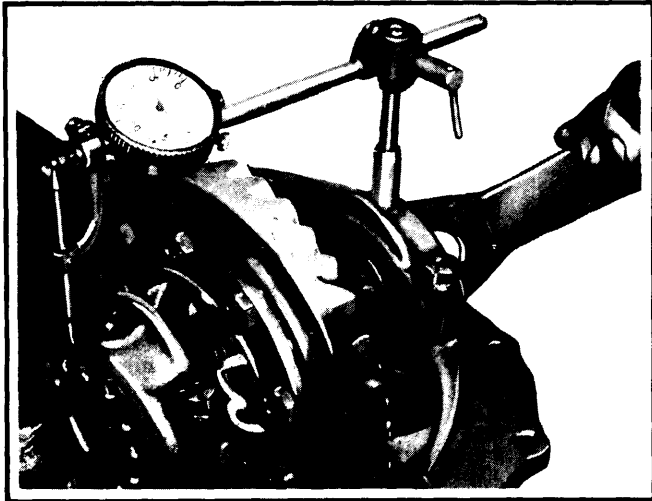

Fig. 3 Dial Indicator Installation to Adjust Bearing Preload
2) Install a dial indicator as shown in Fig. 3. Tighten right nut two notches past where it first contacts bearing cup, then turn differential several rotations to seat bearings. Then, loosen right nut until it just contacts bearing cup. Tighten left nut until case is spread .008-.012". Tighten differential bearing cap bolts.